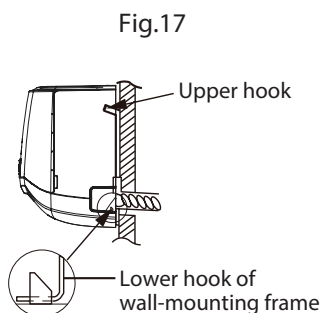

Fig.17
5. Check if the indoor unit is installed firmly and closed to the wall.(As show in Fig.17)